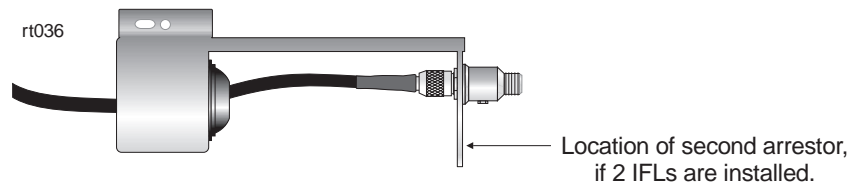

Figure 4-8 Connecting the IFL cable to the arrester
4. Connect the cable to the RF arrester, as shown in figure 4-8.